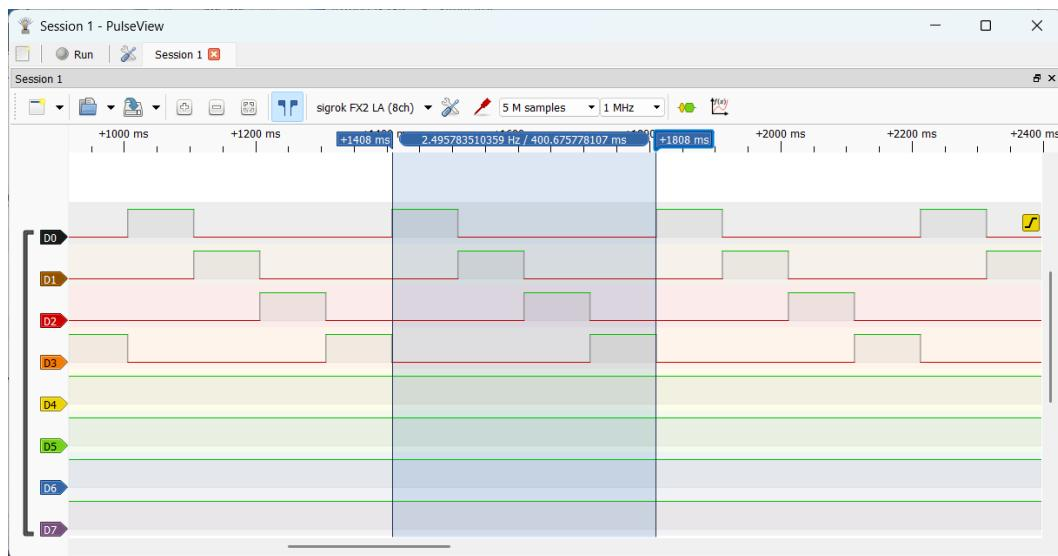

Figure 7: Visualization of captured signal waveforms on 8 channels (the first four channels are output signals from the Arduino board).
- **Figure 7** shows the visualization of captured signal waveforms on eight channels, where the first four channels are output signals from the Arduino board.